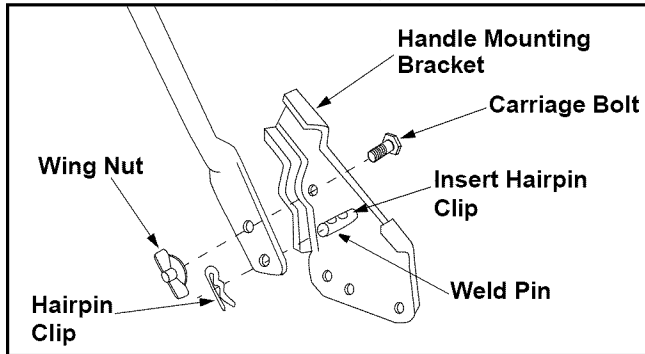

Figure 4
- Remove the hairpin clips from the outer hole in the weld pins on the handle mounting brackets. Using a pair of pliers, squeeze one leg of the lower handle against the handle mounting bracket. Insert the hairpin clip into the inner hole on the weld pin. Repeat on the other side. See Figure 4 .